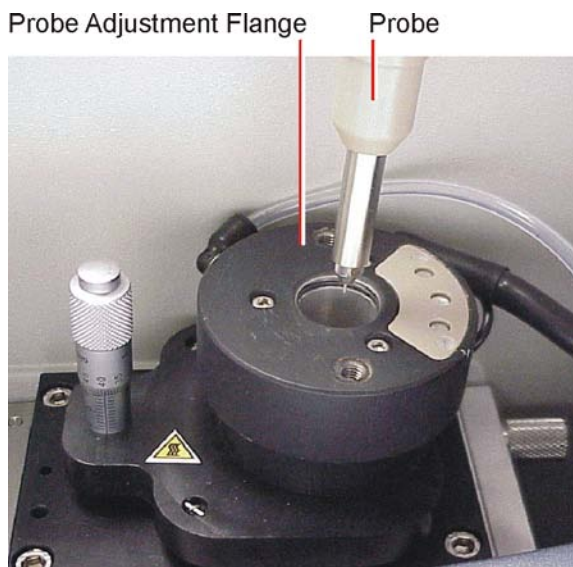

Figure 2-1 Probe Adjustment Flange
3. Carefully slide the probe into the hole in the probe adjustment flange (Figure 2-1).